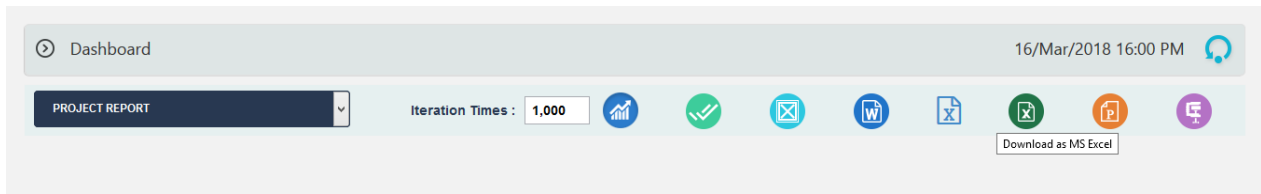

Figure 2.82
3. Click the **Excel** icon to export the chart to **MS Excel**. (Figure 2.82)